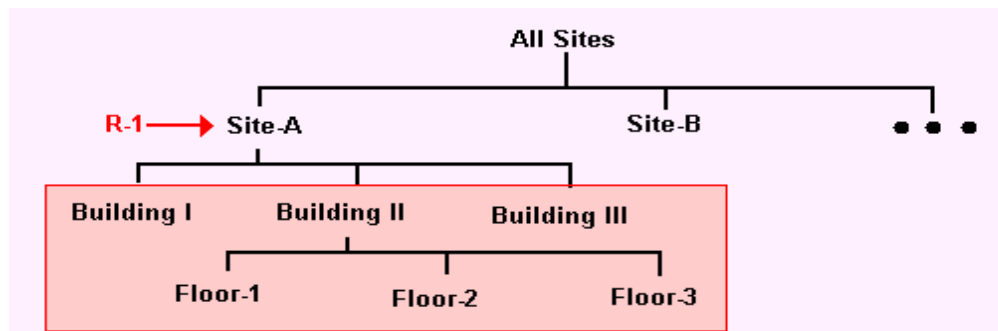

Figure 15.1: Hierarchical organization of database sites.
Database site descriptions are kept in the ‘User’ database in a hierarchical, tree-like organization (see Figure 15.1). In that way, every site created has been assigned to a ‘parent site’ and may have one or more ‘contained sites’. This hierarchical organization allows a user to express the fact that a large manufacturing site (e.g., ‘Site-A’ in Figure 15.1), can be made up of several buildings or areas (I, II, III, IV,...). Each building could be made up of several floors (I-A, I-B, I-C,..., II-A, II-B, II-C,..., etc.)
1. Every resource defined at a given level in the site hierarchy is also available to any of its sub-sites (at all levels). For example, in Figure 15.1 shown above, having 'R-1' as an equipment resource defined at the 'Site-A' level, makes it automatically available to 'Building I', to 'Building-II' and 'Building III' as well as in 'Floor-1', 'Floor-2', 'Floor-3'.